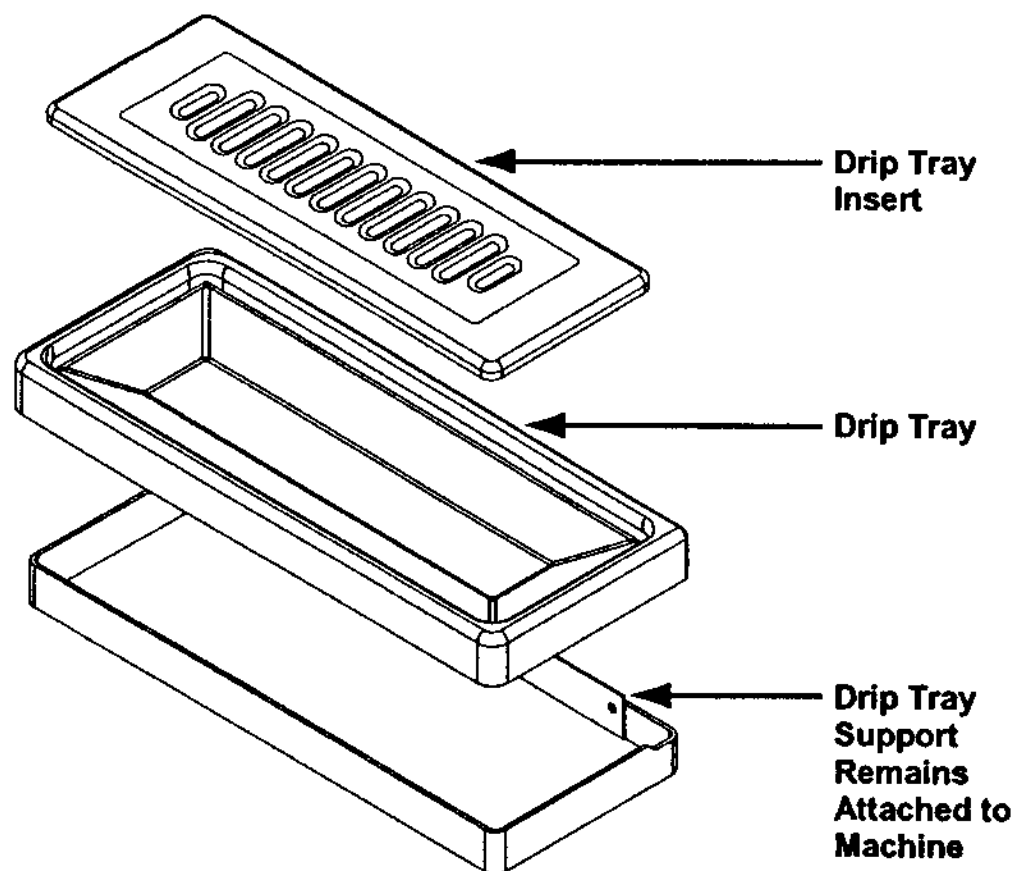

**Fig. 9a**
- Remove the blades from the dasher (Fig. 9a) by first rotating blade upward (Fig. 9b) and then unsnapping one end from the support rod.